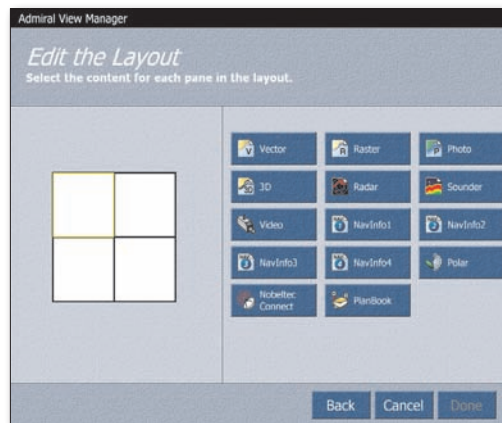

Figure 12.9 - View Manager - Window Pane Types
7. Select the chart type to fill each pane. To fill the active pane (highlighted with a yellow border), make a selection from Vector, Raster, Photo, 3D, Radar, Sounder, Video, NavInfo 1-4, Nobeltec Connect, or PlanBook (see Figure 12.9). Repeat until all panes have been assigned a chart type.